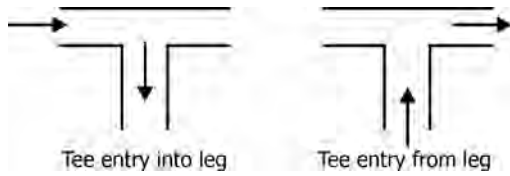

FIGURE 3.2 Tee entry arrangements.
- Which one of the arrangements shown in Figure 3.2 involves higher frictional losses?